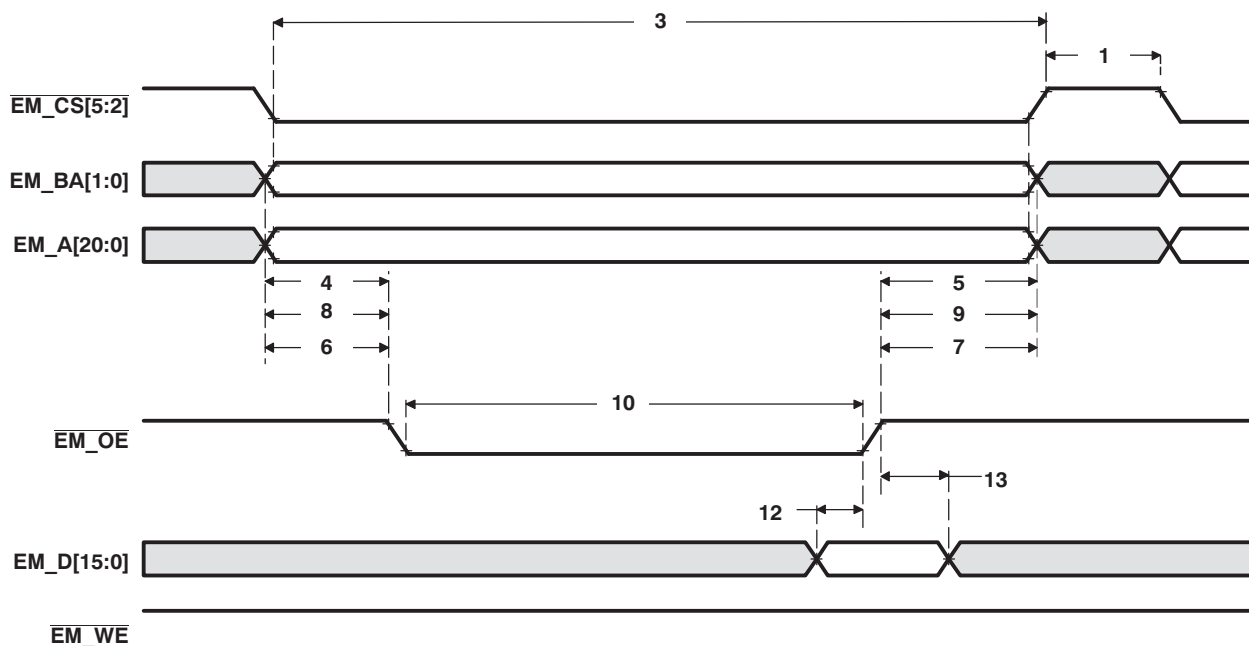
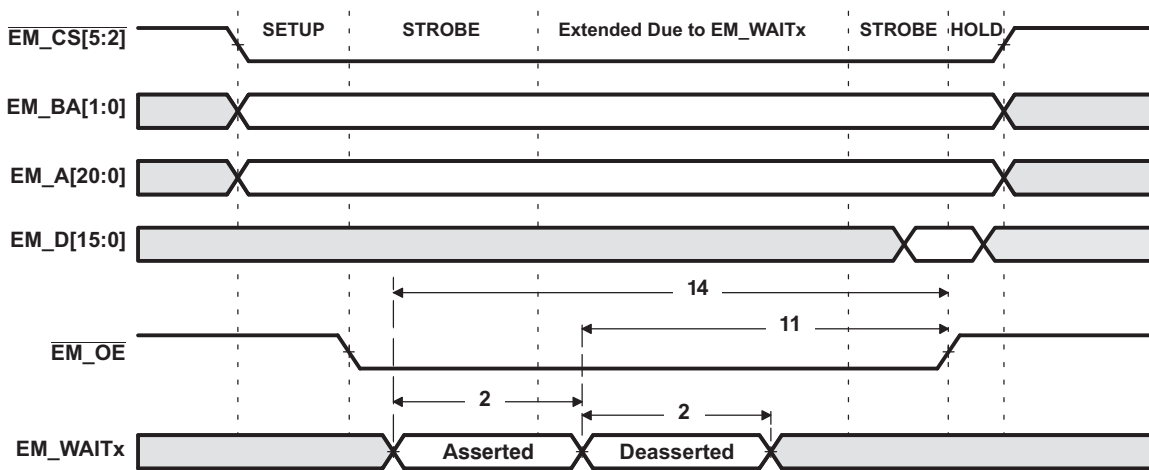
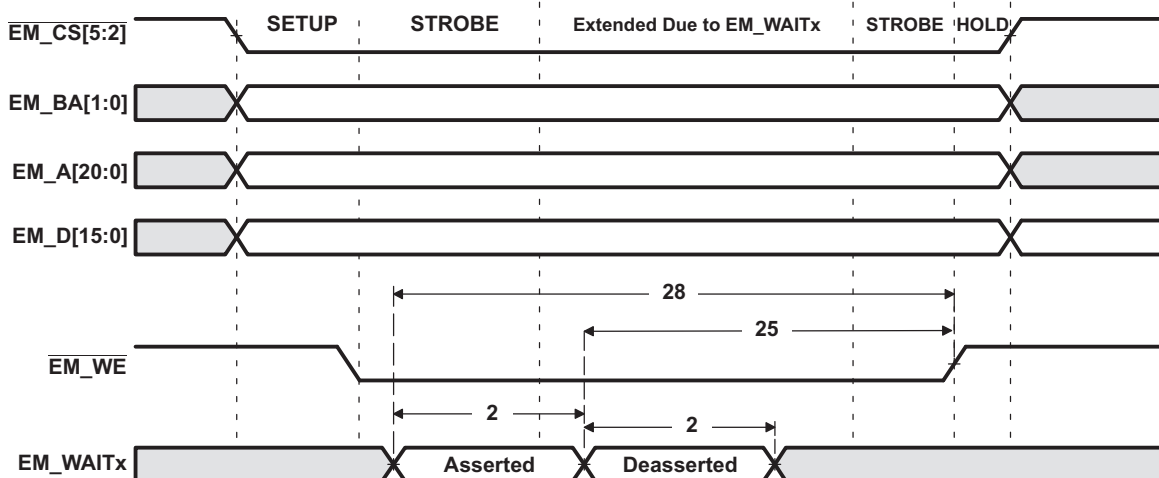

Figure 5-18. Asynchronous Memory Read Timing for EMIF
Figure 5-20. EM_WAITx Read Timing Requirements
Figure 5-21. EM_WAITx Write Timing Requirements
Table 5-18. Timing Requirements for EMIF Asynchronous Memory⁽¹⁾⁽²⁾ (see Figure 5-18, Figure 5-20, and Figure 5-21)
(1) Timing parameters are obtained with 10pF loading on the EMIF pins.
(2) E = SYSCLK period in ns. For example, when SYSCLK is set to 100/120 MHz, E = 10/8.33 ns, respectively.
(3) Setup before end of STROBE phase (if no extended wait states are inserted) by which EM_WAITx must be asserted to add extended wait states. Figure 5-20 and Figure 5-21 describe EMIF transactions that include extended wait states inserted during the STROBE phase. However, cycles inserted as part of this extended wait period should not be counted; the 4E requirement is to the start of where the HOLD phase would begin if there were no extended wait cycles.
Table 5-19. Switching Characteristics Over Recommended Operating Conditions for EMIF Asynchronous Memory^{(1)(2) (3) (4)} (see Figure 5-18, Figure 5-20, and Figure 5-21)
(2) TA = Turn around, RS = Read setup, RST = Read strobe, RH = Read hold, WS = Write setup, WST = Write strobe, WH = Write hold, MEWC = Maximum external wait cycles. These parameters are programmed via the Asynchronous Configuration and Asynchronous Wait Cycle Configuration Registers.
(3) E = SYSCLK period in ns. For example, when SYSCLK is set to 100/120 MHz, E = 10/8.33 ns, respectively.
(4) EWC = external wait cycles determined by EM_WAITx input signal. EWC supports the following range of values EWC[256-1]. Note that the maximum wait time before timeout is specified by bit field MEWC in the Asynchronous Wait Cycle Configuration Register.
Table 5-19. Switching Characteristics Over Recommended Operating Conditions for EMIF Asynchronous Memory^{(1)(2) (3) (4)} (see Figure 5-18, Figure 5-20, and Figure 5-21) (continued)